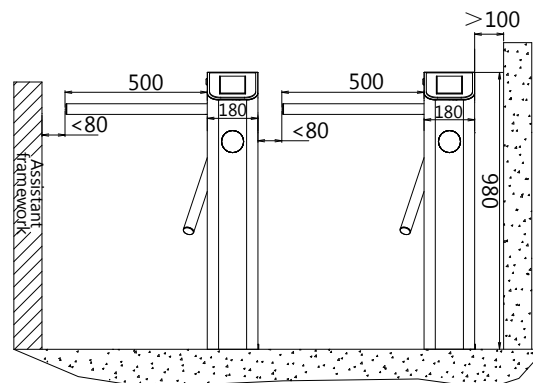

Figure 3-1
You are suggested to install an assistant framework or fence to form a passageway, as shown in figure 3-1.
2. The space at the end of the arm shall not be greater than 80mm (see figure 3-1).